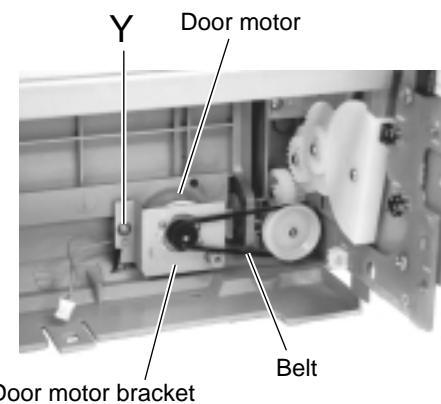

Fig.40
■ Removing the door motor (See Fig.40 and 41)